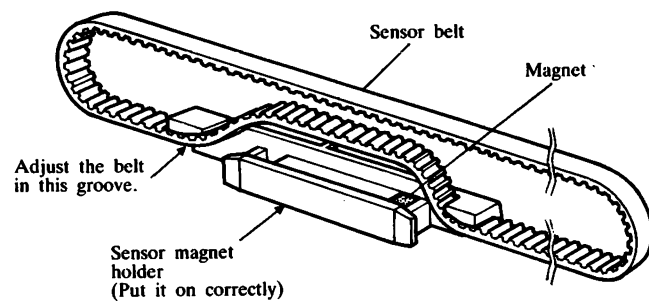

Fig. 42
- (1) While being the notches of the Belt inside, put the Magnet holder on the Belt. (Refer to Fig. 42)